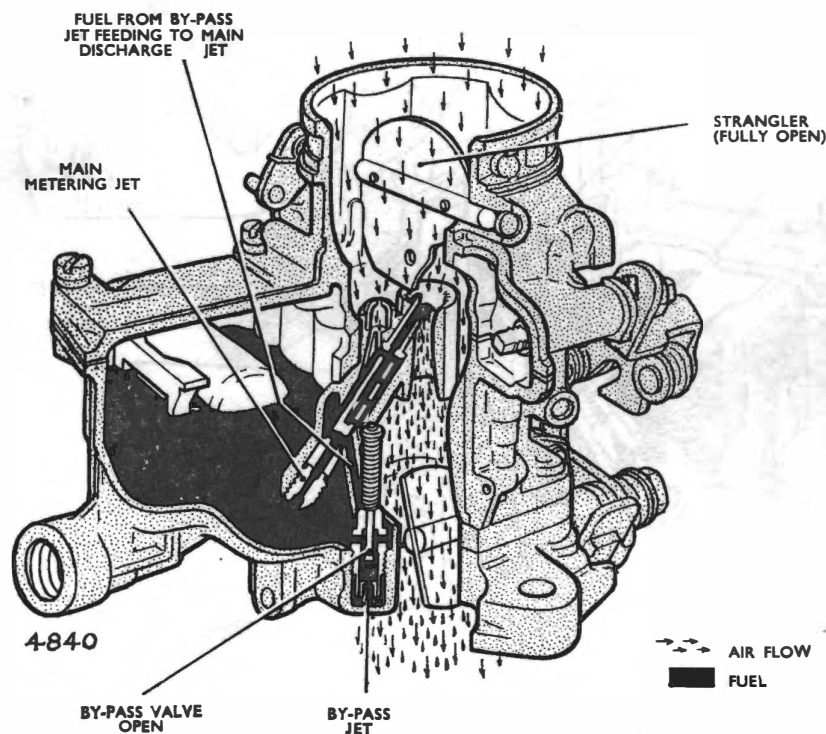

Fig. 11. By-pass jet in operation—WIA carburetors only
**The by-pass jet (See Figs. 11 and 12)**